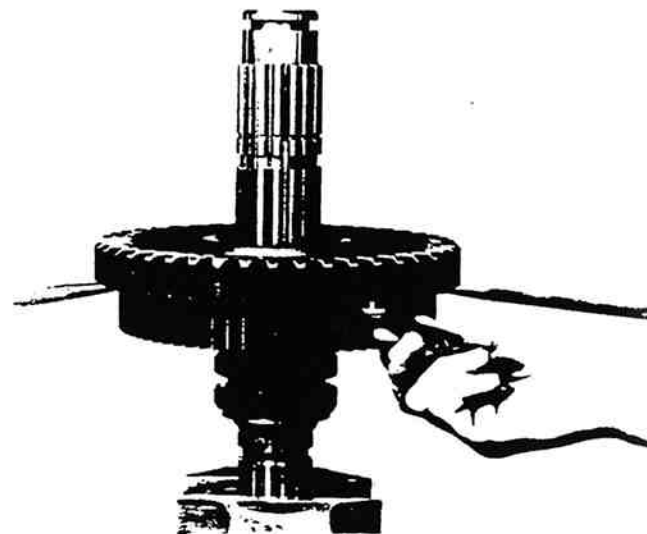

Figure 13-125. Checking Clearance Between Gears.
11. Insert two large screwdrivers between 1st and 2nd speed gears. Apply slight downward pressure on screwdriver handles to spread gears evenly. Making certain gear hubs are parallel, insert feeler gauge between hubs (figure 13-125). Correct axial clearance; should be from .005" (.127-.305 mm). If the clearance is less than the minimum .005" (.127 mm) tolerance, the washer in the 1st speed gear should be replaced by a lower limit washer. This will increase the axial clearance between the gears. If the clearance checked is greater than the maximum .012" (.305 mm) tolerance, a higher limit washer should be installed in the 1st speed gear. This would decrease the axial clearance between the gears.